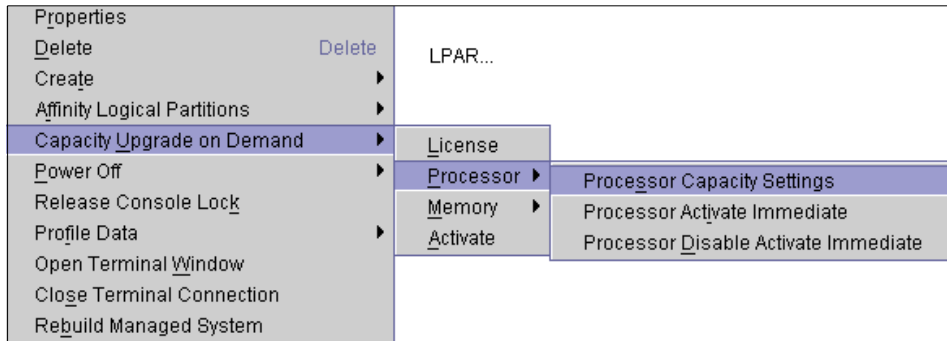

Figure 4-8 To activate the resources using Trial CoD function
1. On the HMC, right-click the managed system and select Capacity Upgrade on Demand -> **Processor** -> **Processor Activate Immediate** for processors, or select Capacity Upgrade on Demand -> **Memory** -> **Memory Activate Immediate** for memory as shown in Figure 4-8.